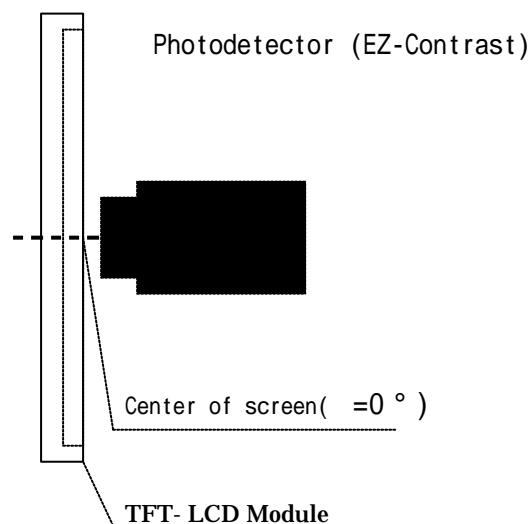

Fig9-1 Viewing angle / Range / Contrast / Response time measurement method
*Measuring after 30minutes operation. The measurement of the optical character is measured by using the method of fig.9-1 and fig.9-2 under the condition which is equal to the darkroom or the darkroom.